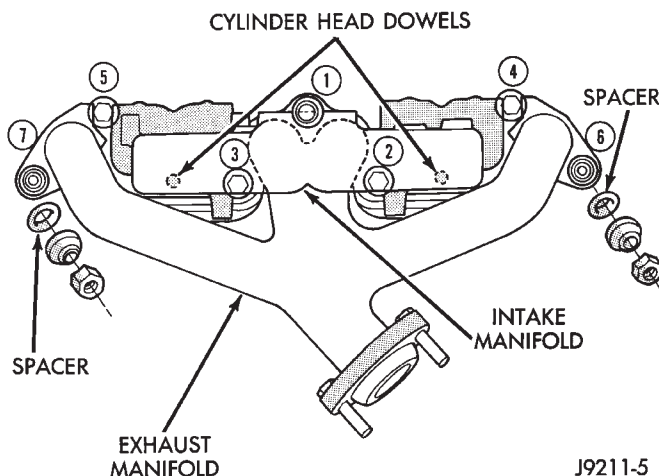

Fig. 29 Intake/Engine Exhaust Manifold Installation—2.5L Engine
- (1) Disconnect the battery negative cable.
- (2) Raise the vehicle.
- (3) Disconnect the exhaust pipe from the engine exhaust manifold.
- (4) Lower the vehicle.
- (5) Remove the intake manifold. (Refer to procedure in this section).
- (6) Remove fasteners 2 through 5 and remove the intake manifold (Fig. 29).
- (7) Remove fasteners 1, 6 and 7 and remove the engine exhaust manifold (Fig. 29).
- (1) Clean the intake and engine exhaust manifolds and cylinder head mating surfaces. **DO NOT allow foreign material to enter either the intake manifold or the ports in the cylinder head.**
- (2) Install a new intake manifold gasket over the alignment dowels on the cylinder head.
- (3) Install the engine exhaust manifold assembly. **Exhaust manifold must be centrally located over the end studs and spacer (Fig. 29).**
- (4) Tighten bolt No. 1 to 41 N·m (30 ft. lbs.) torque (Fig. 29).
- (5) Install the intake manifold on the cylinder head dowels (Fig. 29).
- (6) Install bolts 2 through 5 (Fig. 29). Tighten these bolts to 31 N·m (23 ft. lbs.) torque.
- (7) Install new engine exhaust manifold spacers over the engine exhaust manifold mounting studs in the cylinder head (Fig. 29).
- (8) Tighten nuts 6 and 7 to 31 N·m (23 ft. lbs.) torque (Fig. 29).
- (9) Install all components to the intake manifold.
- (10) Raise the vehicle.
- (11) Connect the exhaust pipe to the engine exhaust manifold. Tighten the bolts to 31 N·m (23 ft. lbs.) torque.
- (12) Lower the vehicle.
- (13) Connect the battery negative cable.
- (14) Start the engine and check for leaks.